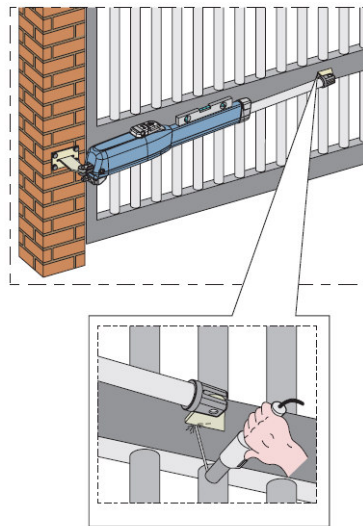

Fig. 12
- 9) Close the leaf and, keeping the operator in a perfect horizontal position, determine the fastening point of the front bracket (Fig.12).
- 10) Temporarily fix the front bracket with two welding spots (Fig.12).